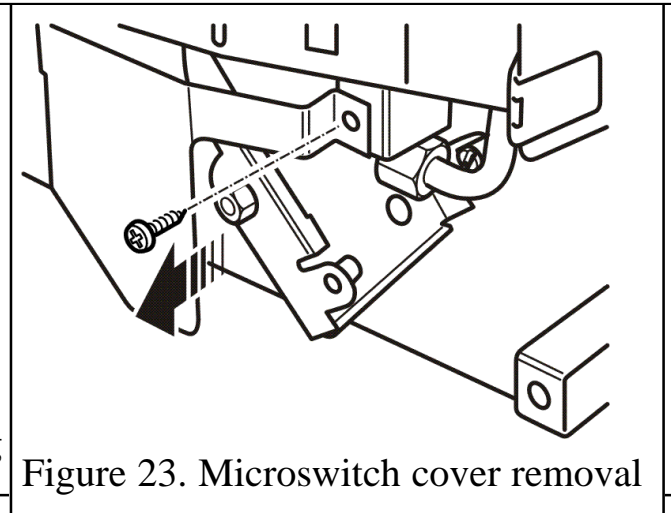

Figure 23. Microswitch cover removal
(See figures 23 & 24).
2. Detach the microswitch cover by removing one screw and pulling clear of the location lug (See figure 23).
(See figures 23, 24 & 25).